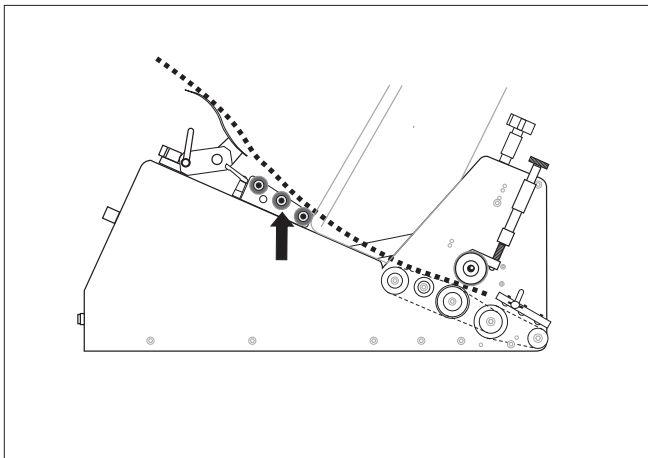

Figure 14A. Low Profile Wedge Supporting Center
5. Large envelopes may require a Low Profile Wedge combination to support the envelopes in their center area (Figure 14A).